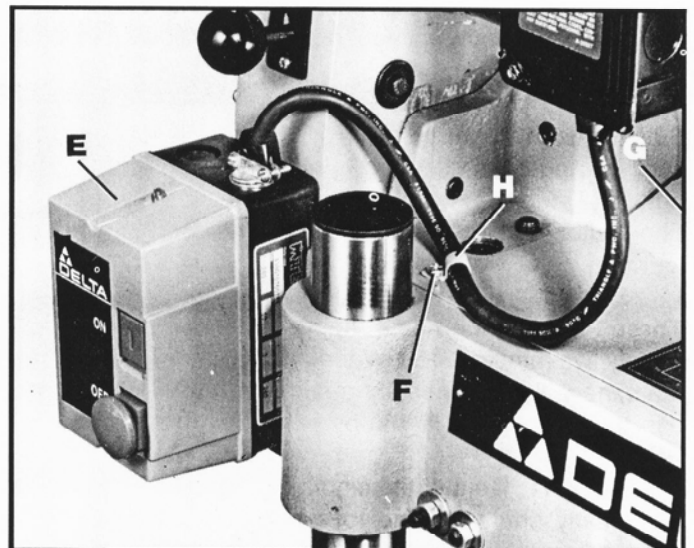

Fig. 19
5. Fig. 19, illustrates the switch cover (E) replaced.
6. Remove screw (F) Fig. 19, that fastens the top cover plate (G) to the head. Assemble cable clamp (H) to cable and using screw (F) assemble cable to top cover plate (G), as shown.